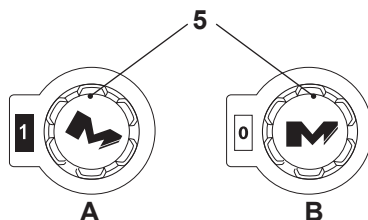

Fig. 14
- > Set the on/off switch (5) in its “1” position to start the product (Fig. 14, A).
- > Set the on/off switch (5) in its “0” position to switch off the product (Fig. 14, B).